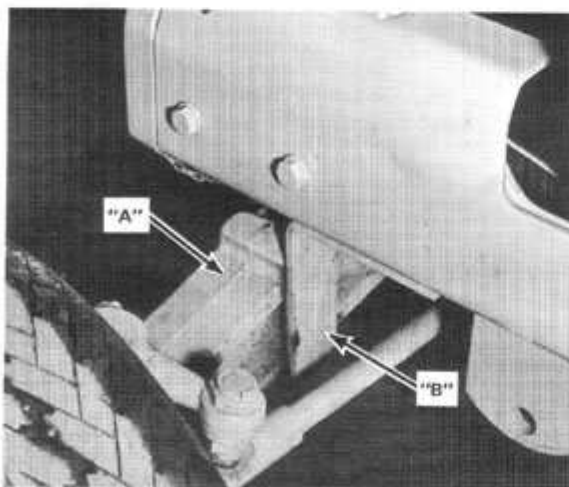

Figure 30
If the clearance between the Front axle assembly "A" and the Stop assemblies "B", Figure 30, is 1/16 inch or more, the stops must be adjusted.
- Move Stop assemblies "B", Figures 30 and 31, up against Front axle assembly "A", Figure 30.